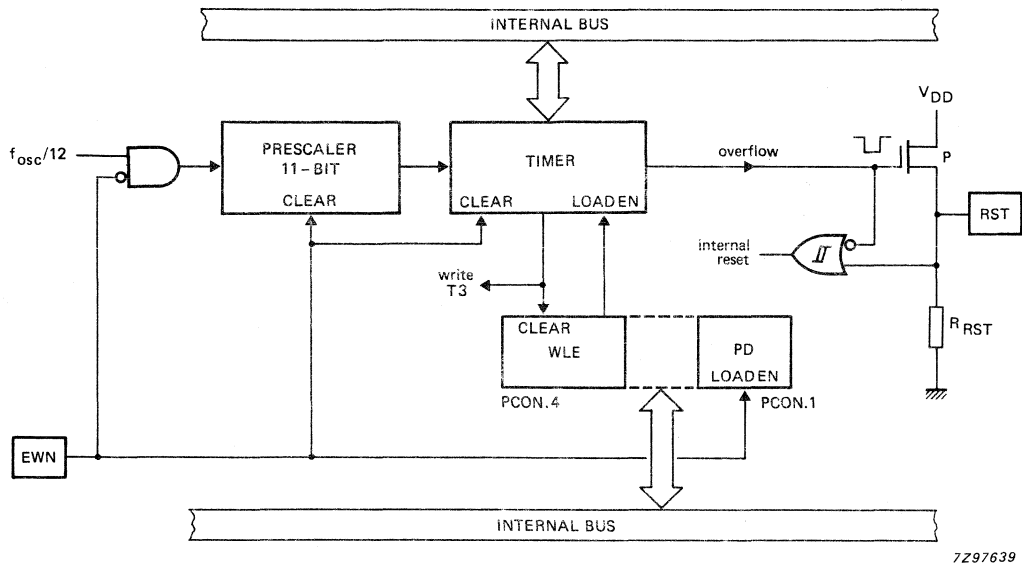

Fig. 10 Functional diagram of T3 watchdog timer.
**T3 The watchdog timer** (see Fig. 10)